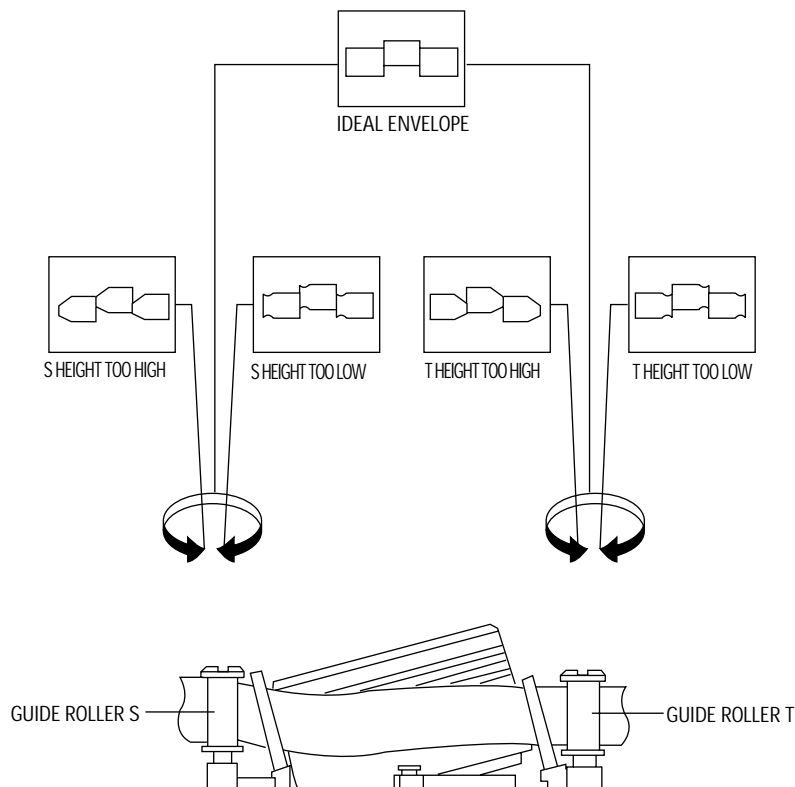

Fig. 2-8 Guide Roller S, T Height Adjustment
8) Turn the guide roller heads with a flat head () driver to obtain a flat video RF envelope as shown in Fig. 2-8.